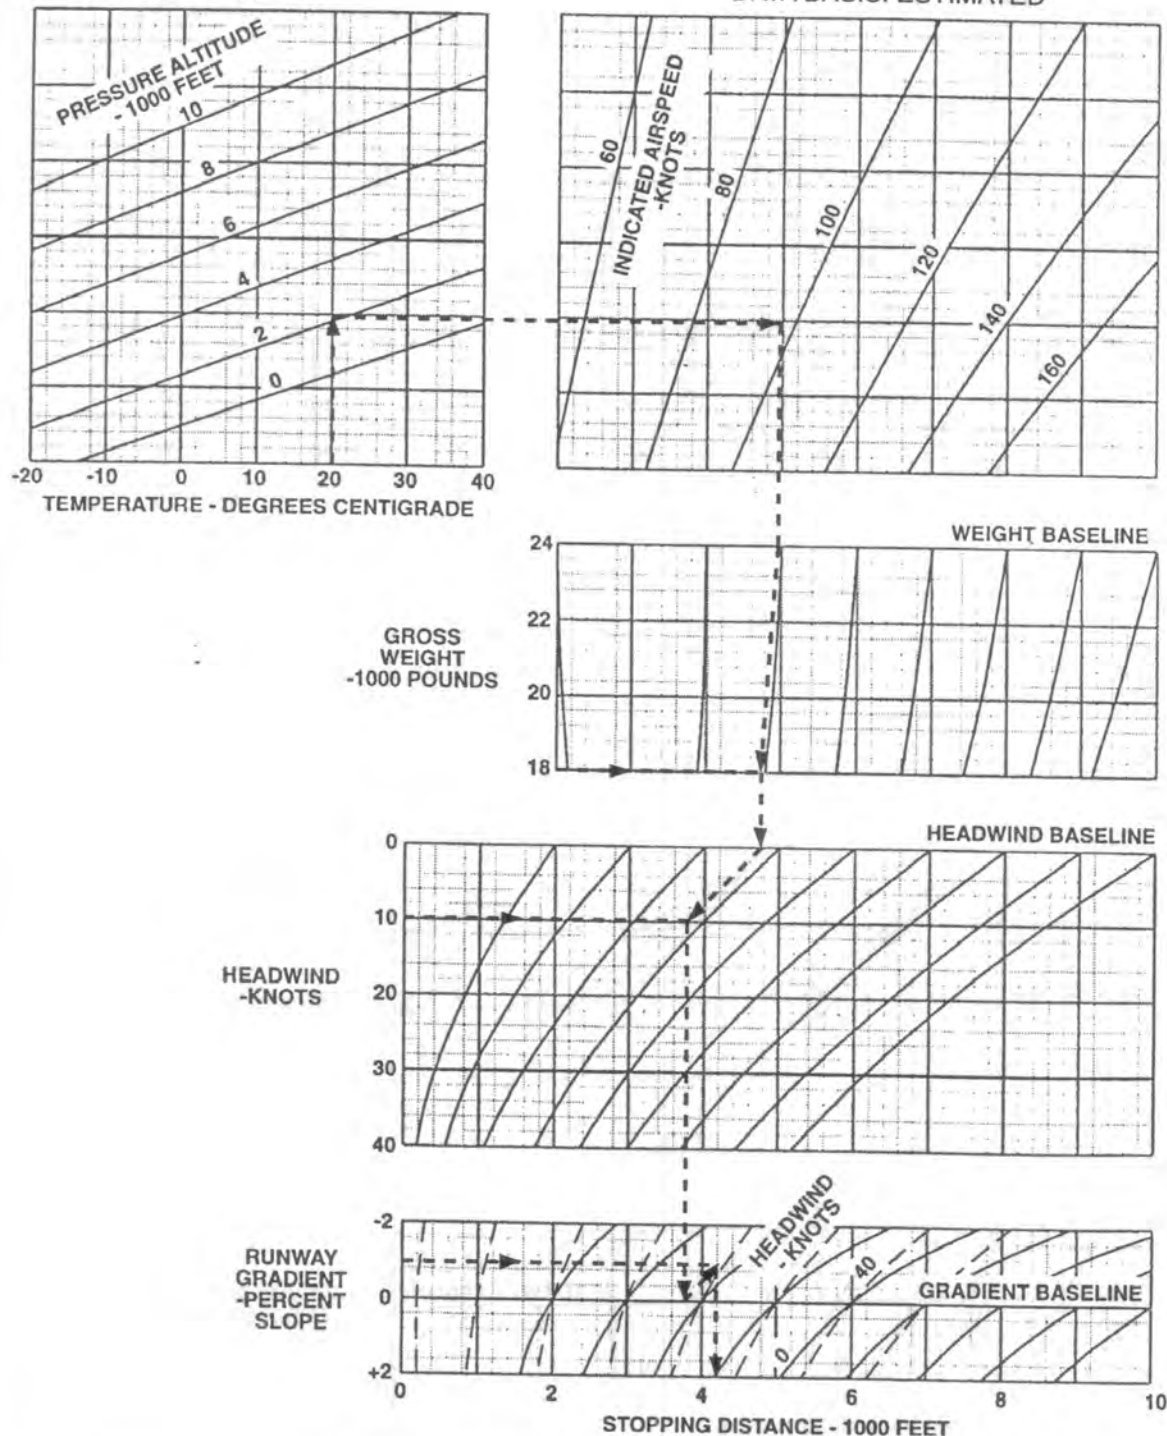
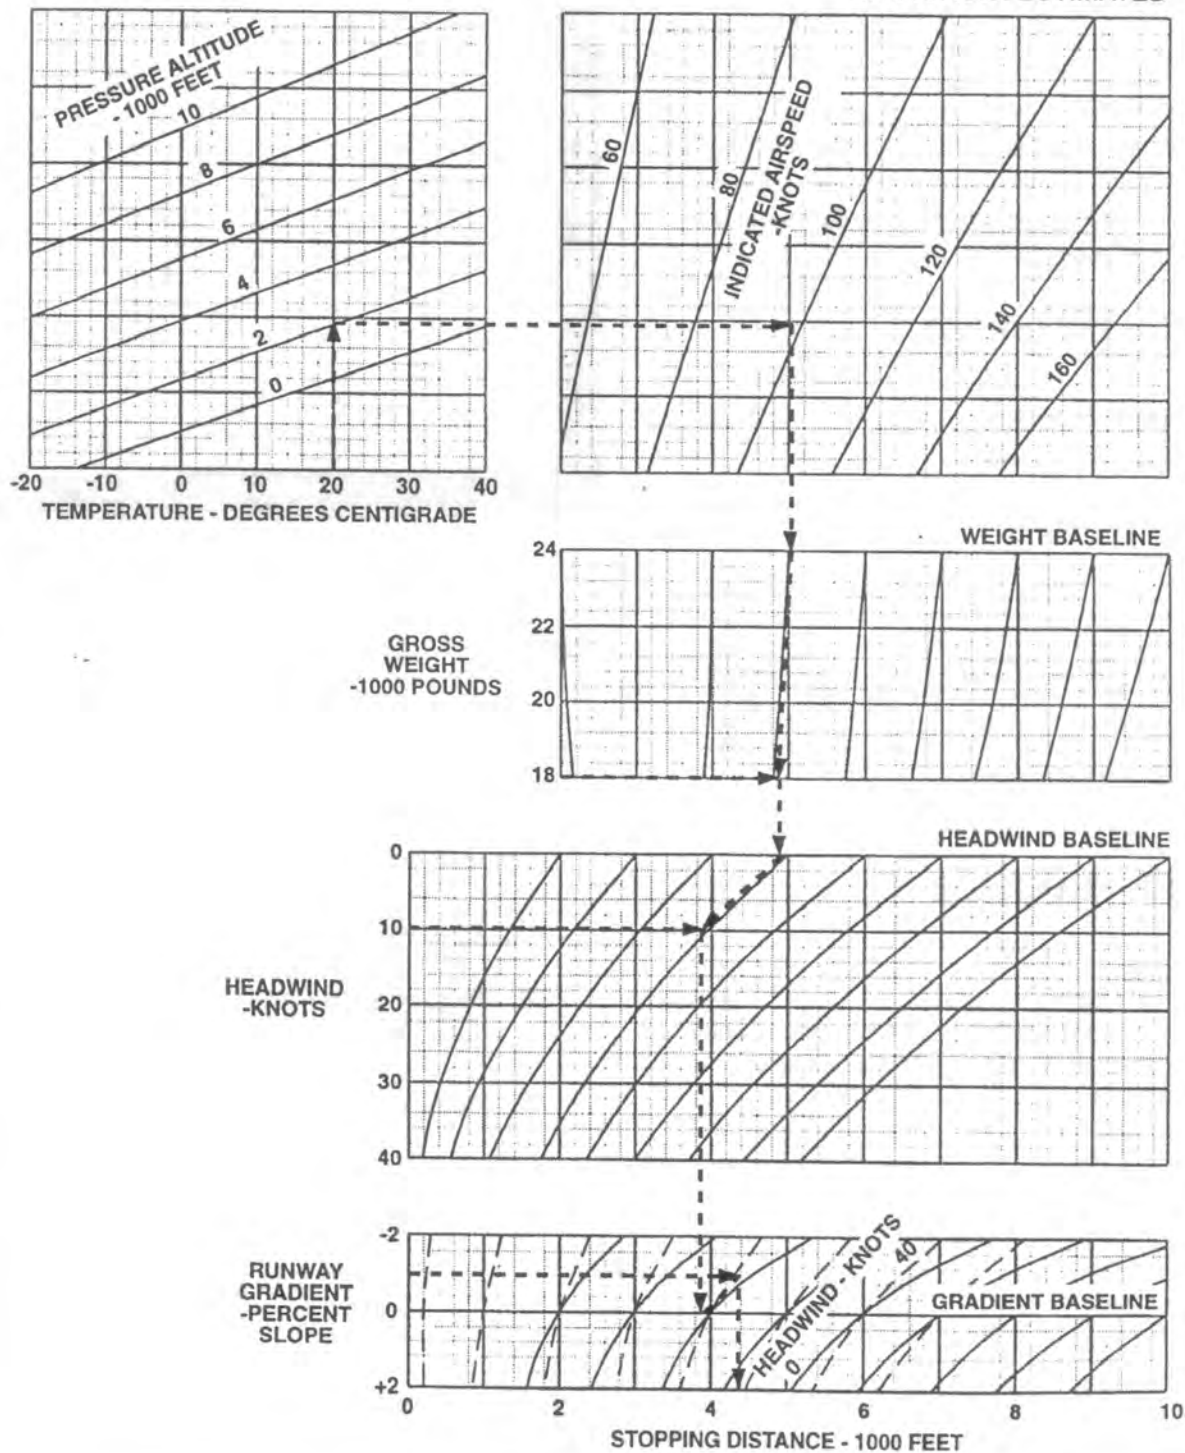

Figure 9-19 Stopping Distance A-4
Figure 9-20 Stopping Distance TA-4
9.30 The stopping distance charts (Figure 9-19 and Figure 9-20) are included primarily for use if the takeoff should be aborted. It is not intended for use in determining landing distance. The data does not include pilot reaction and deceleration time. Distances are based on the application of maximum braking effort without skidding the tires, below brake energy limit speed, and throttle positioned at idle thrust. To minimize diversion of pilot's attention during this critical stage of the takeoff abort, it is recommended that flaps be left in the position selected for takeoff.
Figure 9-19 and Figure 9-20 take no account of use of drag chute.
(For Figure 9-19)